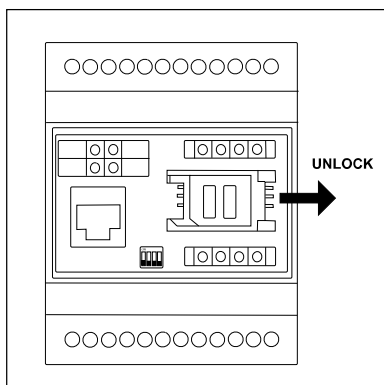

Figure 7.1.2
- Slide the SIM card holder toward its hinge to unlock it (see the **figure 7.1.2**).